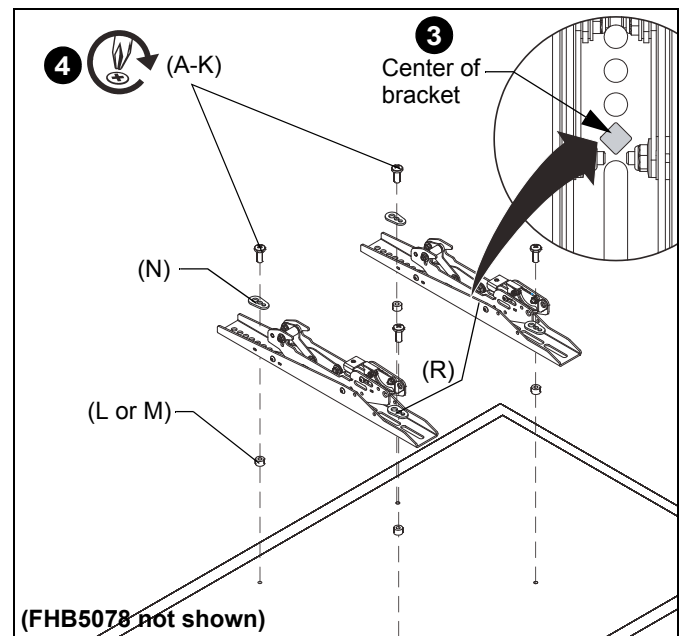

Figure 16
- Align the center of the interface bracket (R) with center of screen. (See Figure 16)
- Select correct screws, spacers (if necessary) and universal washers from the hardware bag (A-N) and attach brackets (R) to back of screen. (See Figure 16)